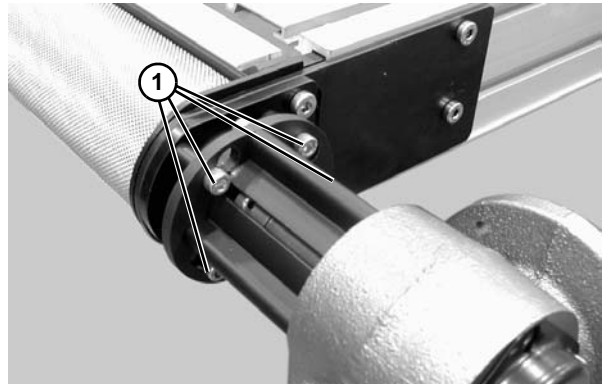

Figure 83
b. Loosen the four (4) lock screw (**Figure 83, item 1**).